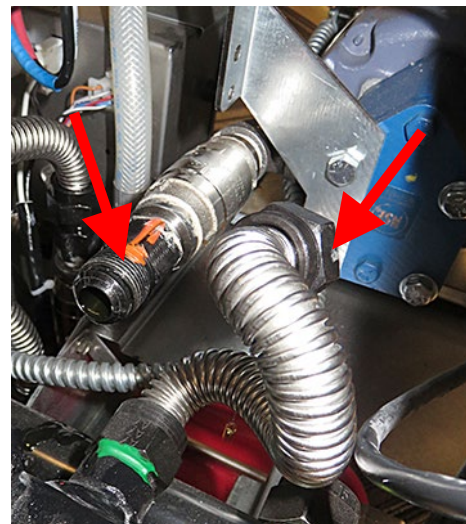

Figure 15
16. Disconnect the flexline from the check valve, connecting the oil manifold to the filter pump (see Figure 15).